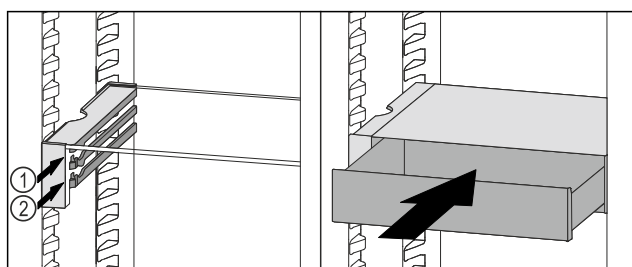

Fig. 121
- ▶ Place the VarioSafe drawer behind the stoppers on desired rib *Fig. 121 (1)* or *Fig. 121 (2)*.